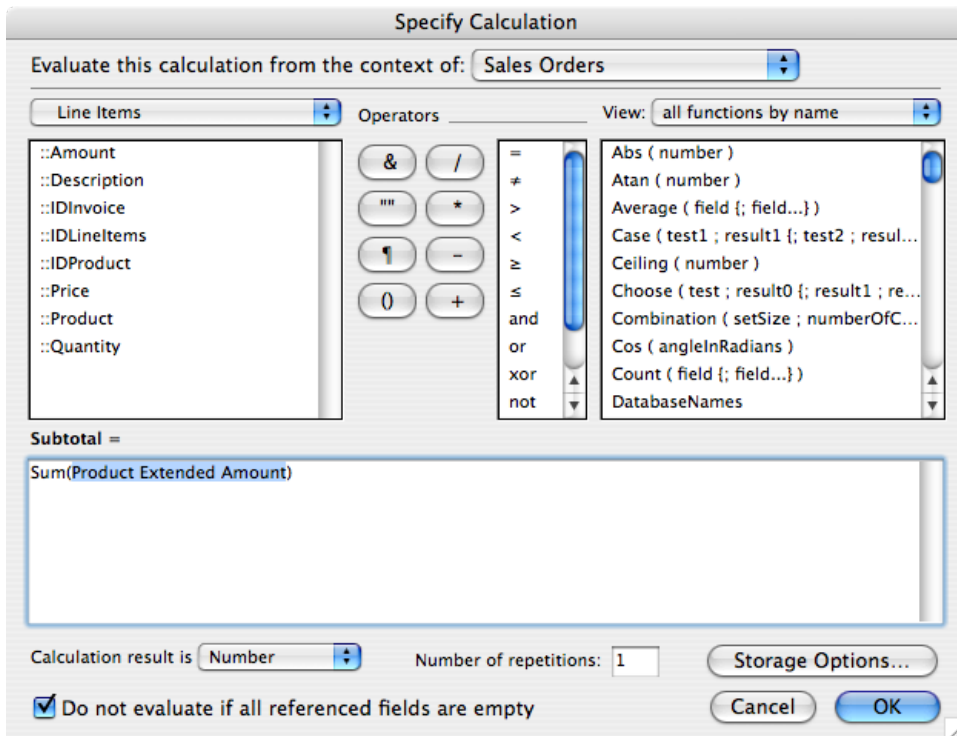

Figure 21: Product Extended Amount is highlighted, ready to be replaced
- e. In the Calculation area, highlight the Product Extended Amount. See Figure 21.